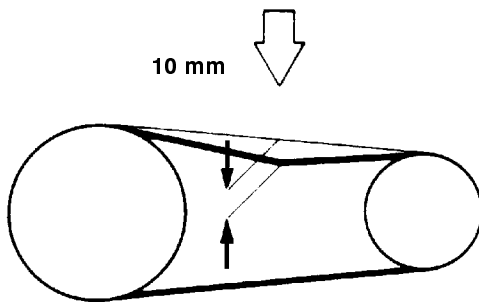

Fig. 27 Checking V-belt tension
- The best tension for a belt drive is the lowest possible, where the belt under full load does not slip. A rough value for this is when the belt deflects **10 mm** when pressed with thumb pressure between the two pulleys (Fig. 27). For best results we recommend our v-belt tension meter, part no. N25238.
- Adjust motor until the belt tension is correct (see Fig. 27).